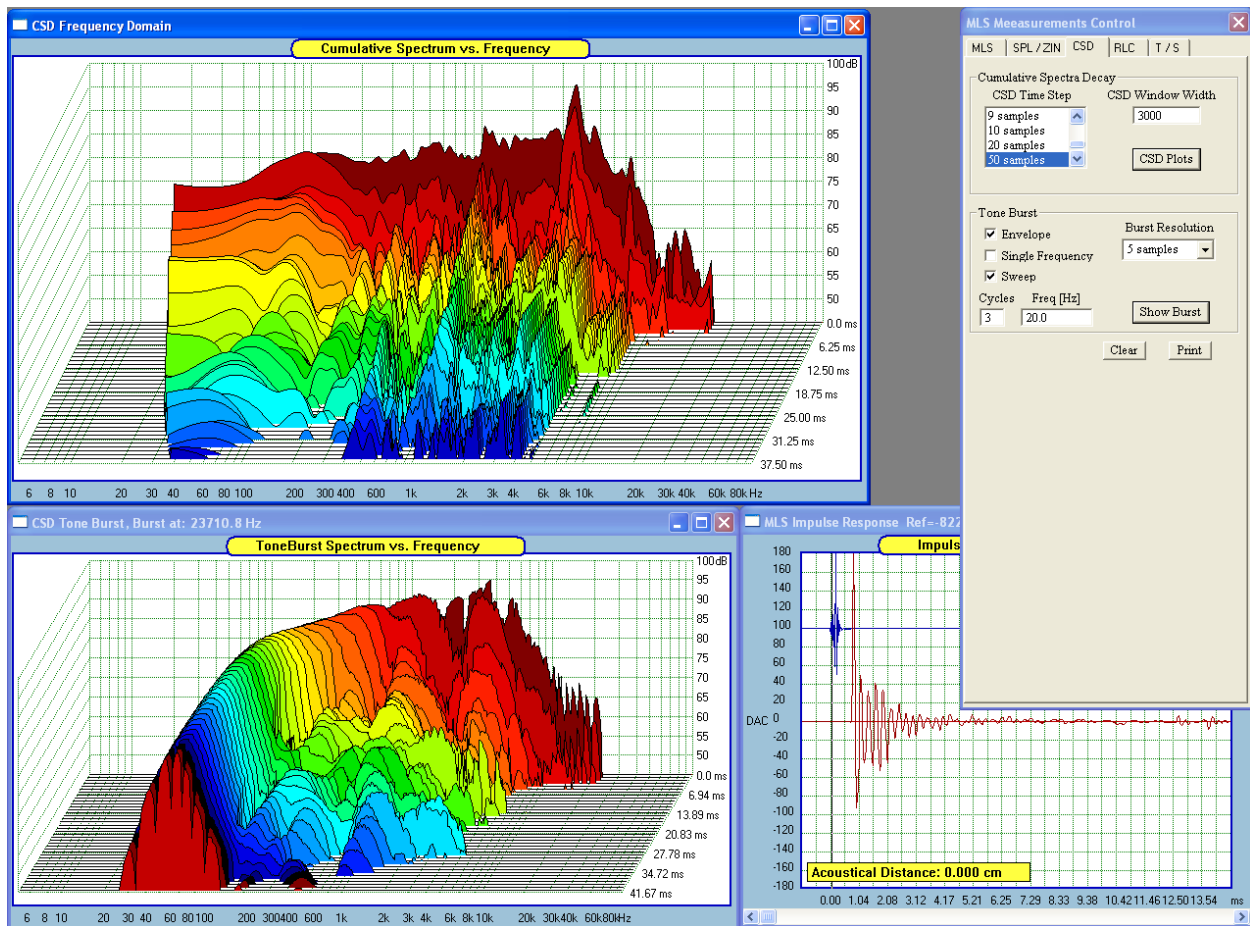

Figure 16.23. Example of CSD waterfalls AND ToneBurst waterfalls.
When the “Cumulative Spectra” dialogue box is opened, you will notice a section in the middle of the box – see Figure 16.23. It’s called “Tone Burst” and contains all controls necessary to perform tone-burst excitation analysis of the collected Impulse Response. You can generate tone-burst response at individual frequency or you can also generate waterfall-like family of responses, where the excitation was a tone burst of several cycles of each frequency. The responses were then assembled to resemble a waterfall-like display.
6. **Press “Burst” button.** Now, see Figure 16.23 for example.